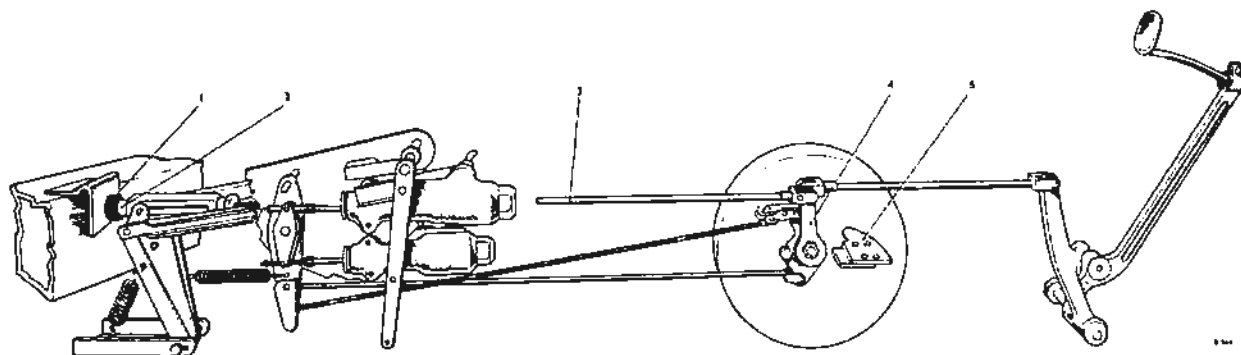

Fig. 1. 'On-stop' adjustment
1. Position the rubber 'off-stop' (see 1. Fig.1) against the bracket on the chassis frame.
2. Adjust rod (3) so that the servo outer lever (4) leans 10 deg.  $\pm$  2 deg. towards the rear of the car when the end of the slotted link (2) is in contact with the rubber 'off-stop' (1). Tighten the lock-nut on rod (3).
3. Place a 1.000 in. distance piece between the end of the slotted link (2) and the rubber 'off-stop' (1). The 'on-stop' (5) should then be positioned so that it is in contact with the outer servo lever (4). Secure the 'on-stop' in position.